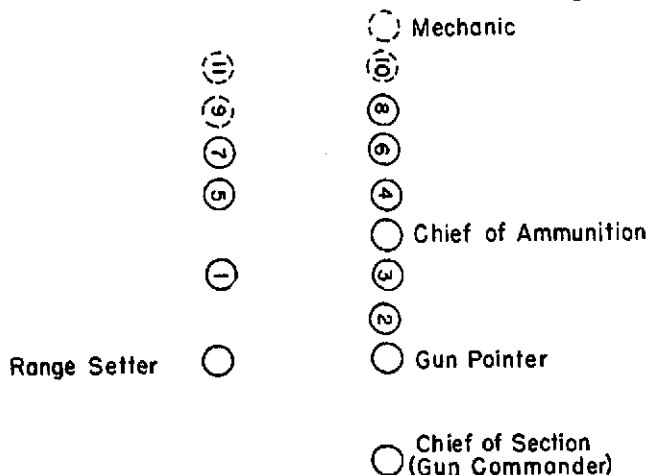

FIGURE 1.—Formation of gun section.
■ 6. **FORMATION.**—Each section assembles in two ranks with 4 inches between files and 40 inches between ranks. The post of the chief of section is in the front rank 1 pace to the right of his section. Artillery mechanics, who are members of the maintenance section, take post in the front rank on the left of the first and last gun sections. (See fig. 1.)